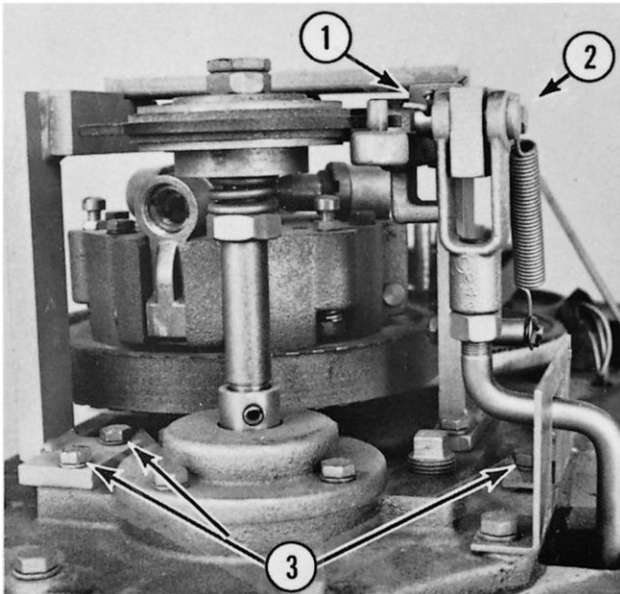

Fig. 8-1
A. To replace the Flexa-Gear drive belt, remove the cotter pin (1, Fig. 8-1) and the clevis pin (2, Fig. 8-1).
B. Remove the four hex head bolts (3, Fig. 8-1) and swing the clutch operating mechanism away from the clutch operating cam bearing.